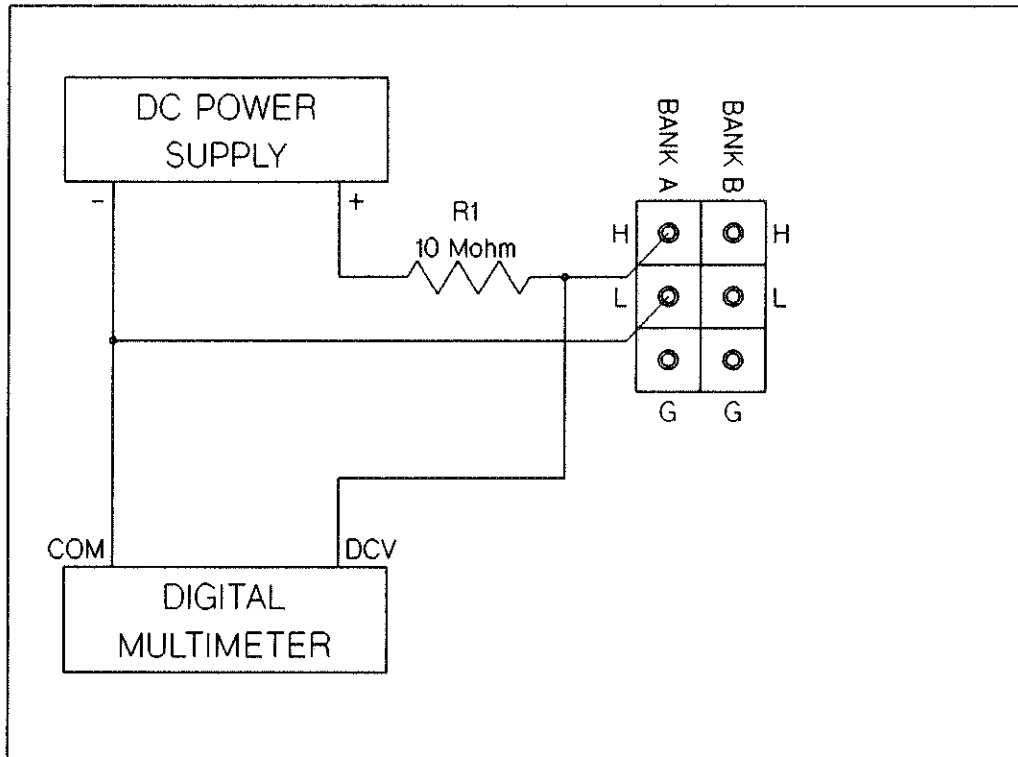

Figure 8-21 HP 44705A/H Bank A HIGH to LOW DC Isolation
27. Connect the test circuit between the Bank A HIGH and Bank A LOW common test points on the test fixture as shown in Figure 8-21.